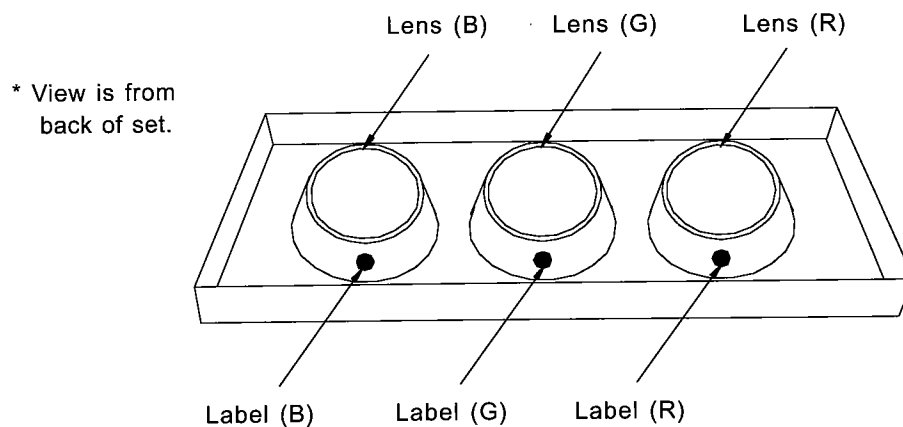

Fig 5-8
- a) Position the Lens so that the Label faces the direction shown in Fig. 5-8.